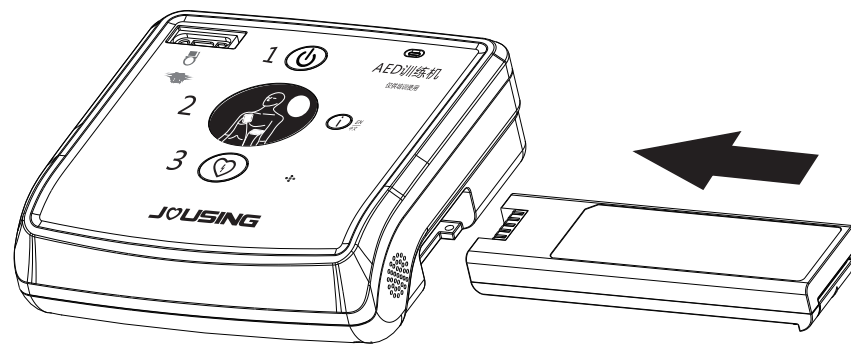

Figure 4 Installing Battery
4. Insert the battery box into the battery holder of the main unit as shown in Figure 4, label side facing up.